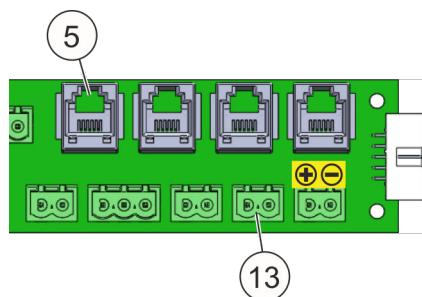
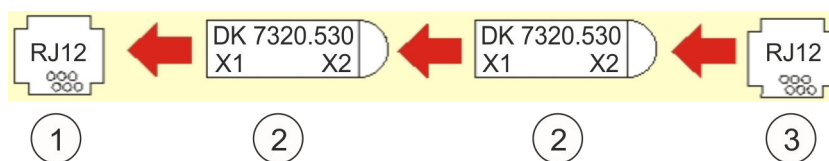

Fig. 28: Connections door contact switch
Fig. 29: Installation diagram for the door contact switch "RJ12 plug" (access sensor)
The door contact input "5" (Fig. 28/5) is designed for switch type Rittal 7320.530 (Fig. 30/2 or 3). Connect door contact switches of variant "RJ12 plug" to the door contact input "5". Make the connection as per Fig. 29 and Fig. 30.
- 1 Door contact input "5" (Fig. 28/5)
The pre-mounted terminating resistor (Fig. 28/13) must be removed when using the switch "Rittal 7320.530".